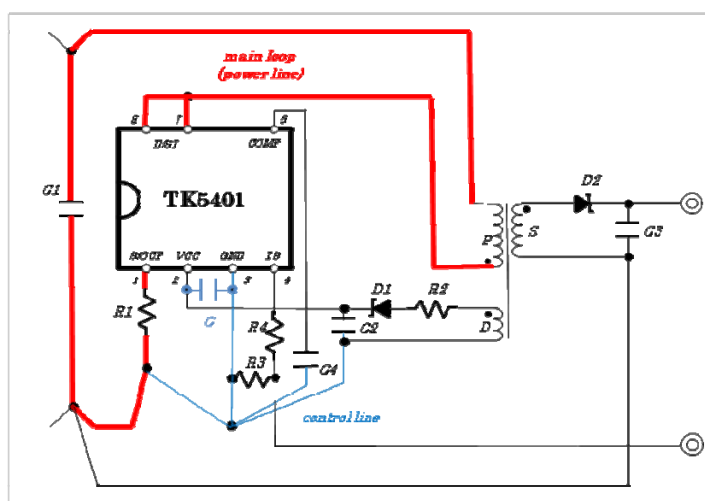

Figure12 Connect Pattern Example
- (1) Shown it in figure 12, please wire it as possible thick and short for the loop patterns from S/OCP terminal to D/ST terminal of the IC so that switching current flow.
- (2) Please wire it as possible thick and short for the pattern of Vcc line. please insert a film condenser C (a level of 50V/0.1 μ F) between Vcc terminal and GND terminal when the IC and distance with C2 are long by all means.
- (3) Drain terminal recommend so that make it as possible big pattern to be effective against the dissipation of heat.
- (4) Please wire it as possible short between S/OCP terminal and current sense resistor R1. In addition, please separate power GND and control GND by the other pattern well.